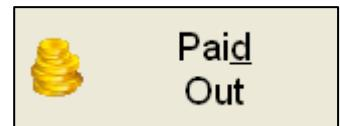

Figure 60
1. To record pay-outs select the ‘Paid Out’ option from the LOTS ‘Point of Sale’ screen (as shown in Figure 60)